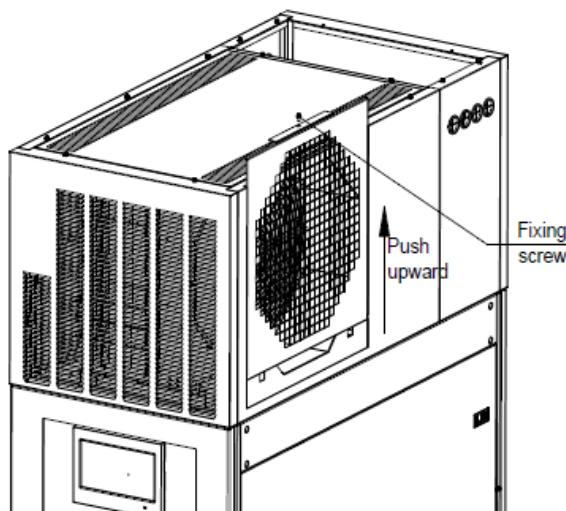

Figure 2-28 Removal of the perforated board on the air outlet
2. Remove the perforated board as shown in Figure 2-28: